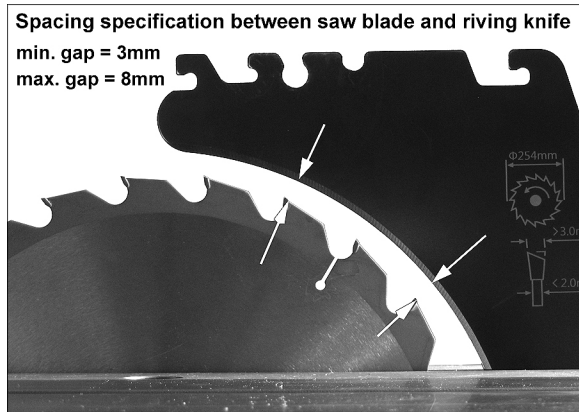

Figure 8-8
The gap between saw blade and riving knife must be between 3mm (0.12in.) and 8mm (0.32in.). See Figure 8-8.
- Tighten screws (C).
- Reinsert riving knife; engage lever (A) and check that saw blade/knife gap is between 3 to 8mm (Figure 8-8).